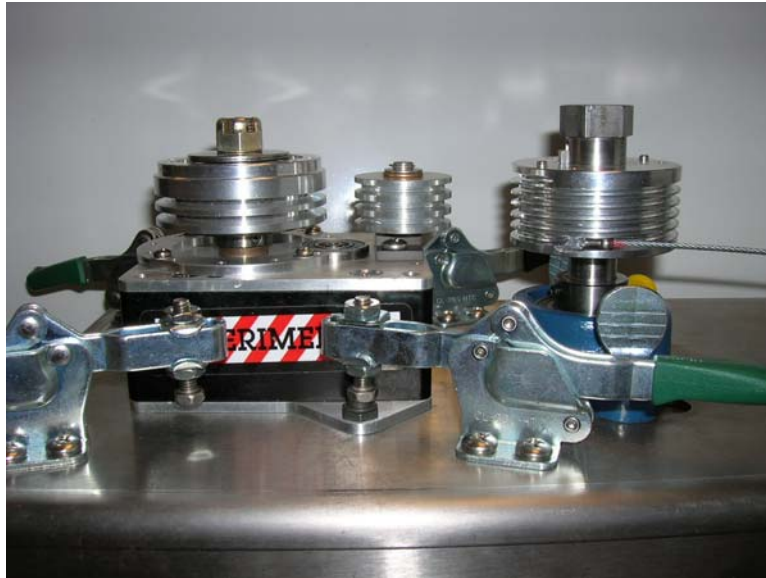
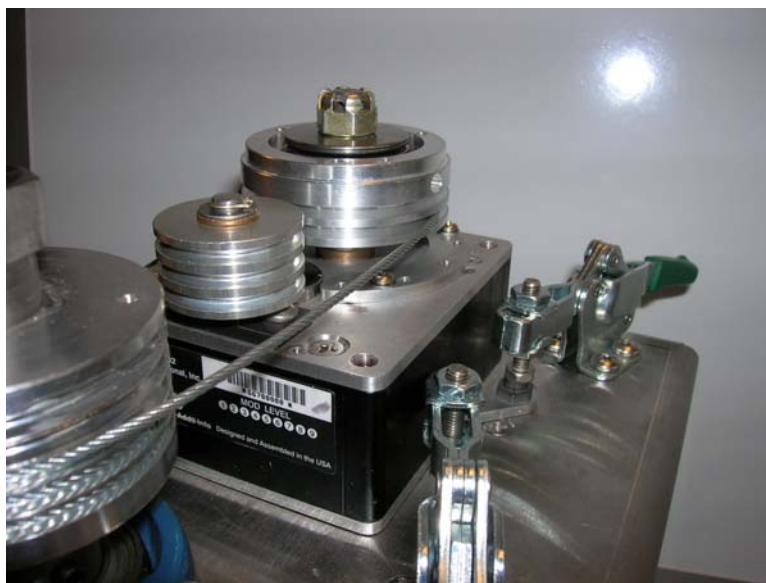

Figure 3-16. Cable end inserted in bottom slot
Figure 3-17. Cable wrapped 2.5 times, going across to unit capstan lower slot
- 1) Insert swaged ball end of the cable (233-20002-00) into the bottom end slot of the fixture capstan (Figure 3-16). Wrap the cable around the capstan two and one half times, and then across to the bottom slot of the unit capstan (Figure 3-17).